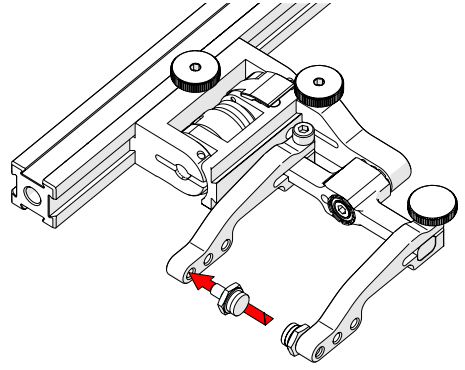

Fig. 105 - Place pivot buttons
4. Using the supplied 3/8 in wrench (Fig. 41), place the pivot buttons (Fig. 105) farthest from the yoke for maximum wedge clearance.